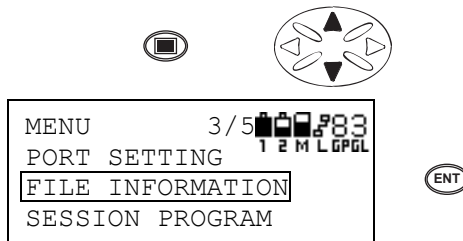

Figure 3-103. Initiate Menu Mode, Scroll to File Information, and Press Enter
- Press the **menu** key to enter the menu mode. Press the **up/down cursor key** to select **FILE INFORMATION** and press **ENT** (Figure 3-103).